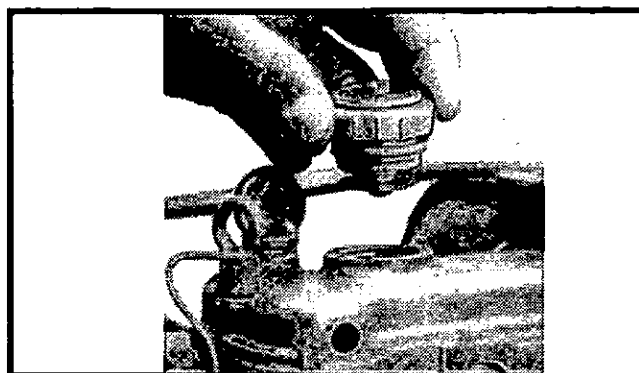

Figure 5-19 Engine Oil Filler/Breather
1. Check and clean as necessary, the engine crankcase breather which is combined into the engine oil filler cap (Figure 5-19).